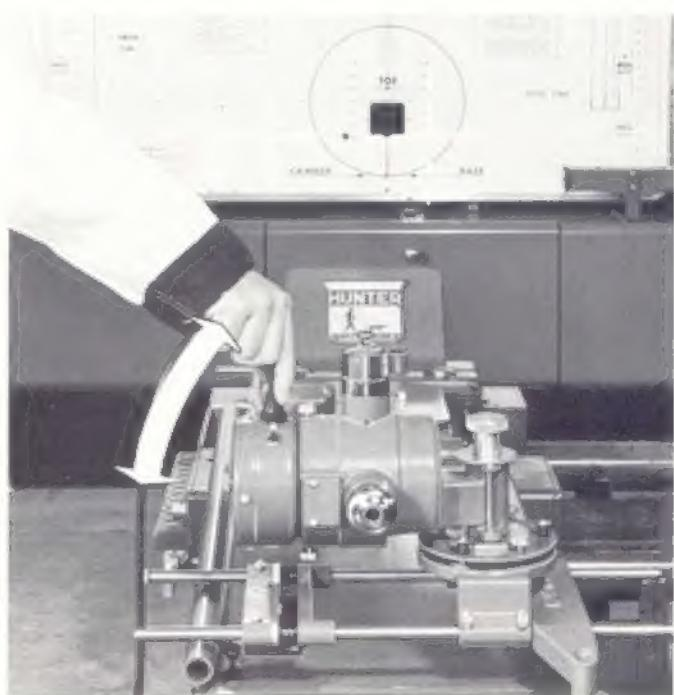

FIGURE 15
- 7. TO CHECK ONE OF THE FOUR CAMBER LIGHT BEAMS:** First, place projector on floor or rack, with rods parallel to front charts, and about 6' away (There must be a hard, solid footing for rim buttons). Now, check compensator assembly as in Section 4. above. Plug in the lamp unit and turn on. Point a light beam toward the chart and pencil a **mark** where the light beams cross. Slowly and carefully (by gently holding cord) (See Figure 15) move the projector head through a **small arc** so the light beam moves along the mark.